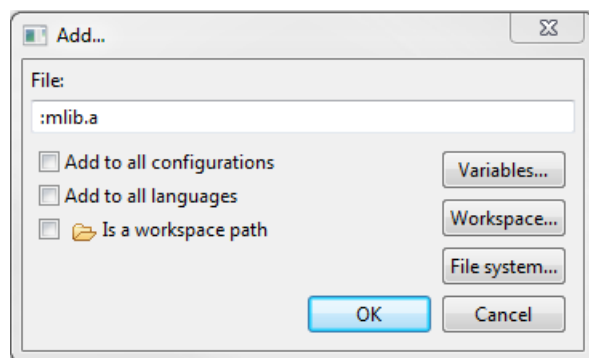

Figure 1-12. Library file inclusion
11. Type the following into the File text box (see Figure 1-12): :mlib.a